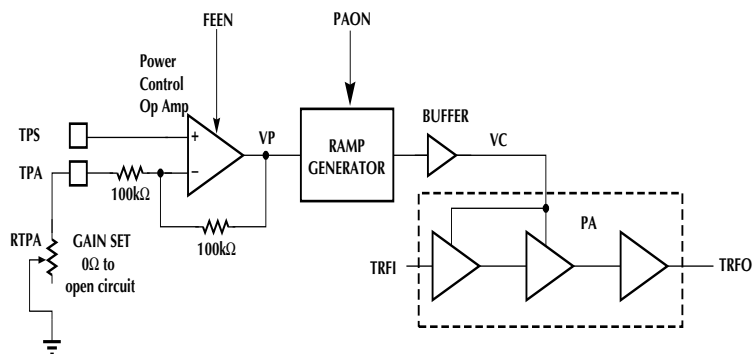

Figure 1. PA Power Setting and Ramp Generator
The power amplifier (PA) consists of three cascaded gain stages. The last stage (output stage) is powered directly from the unregulated supply to increase end-product battery life. The TPS and TPA pins are used to control its output power. The TPS and TPA pins are connected to an internal power control op amp as shown in Figure 1. The op amp's output voltage (VP) determines the PA's gain. The voltage at VP drives a buffer that serves as a collector supply for the first two stages of the power amplifier.